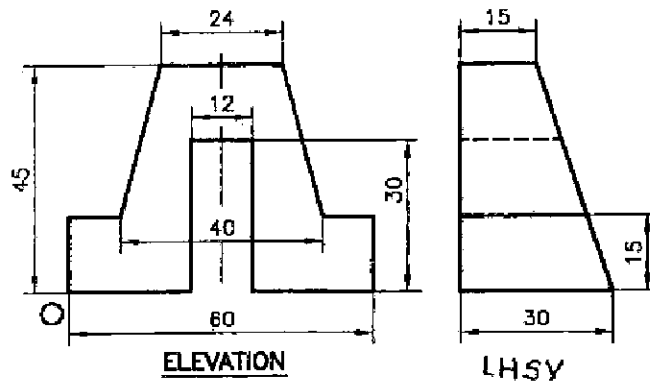

Figure 6
8. The figure 6 shows elevation and LHSV of a machine part. Draw its isometric projections by using isometric scale.